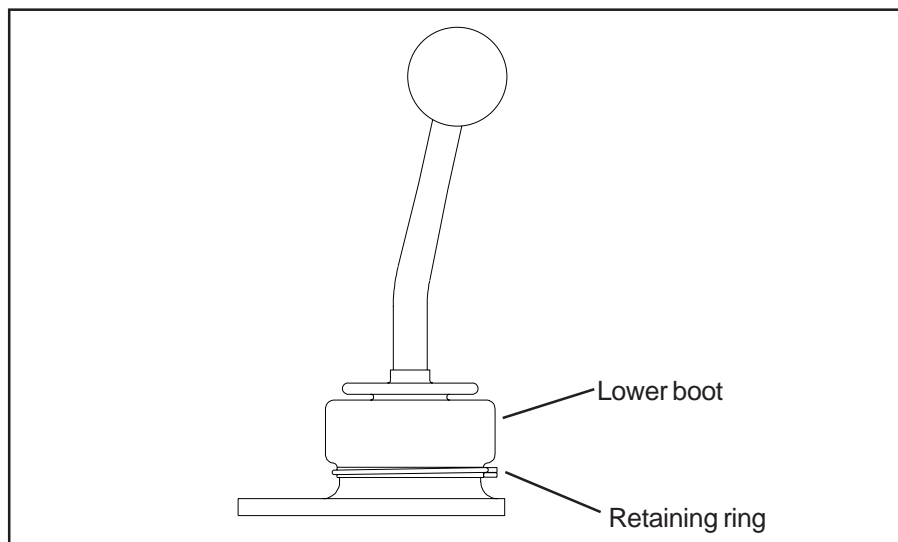

Figure 3
Step 5. Check the operation of the shifter. Install the new lower boot supplied with the **B&M Short Throw Shifter**. First put the retaining ring around the bottom of the shifter, below the stop screw holes. Then install the boot over the shifter. Squeeze the retaining ring with your fingers and put it around the lower part of the boot. (See **Figure 3**.) This lower boot must be used to keep dirt and water out of the shifter mechanism.